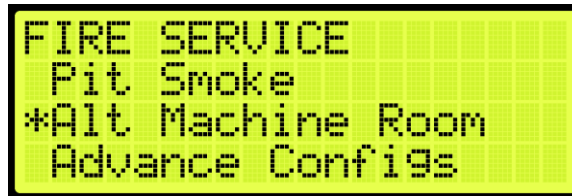

Figure 607: FIRE SERVICE Menu – Alt. Machine Room
2. From the FIRE SERVICE menu, scroll and select Alt. Machine Room (See Figure 607).
1. Navigate to MAIN MENU | SETUP | FIRE (See Figure 607).